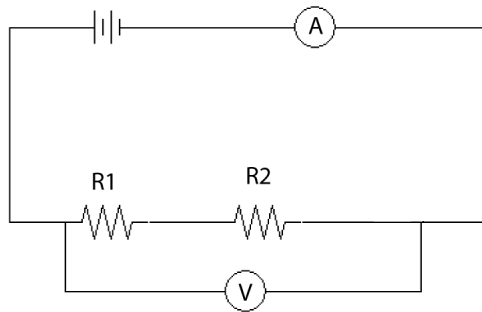

Figure 2.13: Schematic for 2 resistors connected in series.
- Construct the circuit shown in Fig. 2.13.** Use two different resistors having resistances of approximately $1\text{ k}\Omega$ and $2\text{ k}\Omega$. Set the power supply voltage to the middle of its range and record your measured voltage and current in Data Table 3.